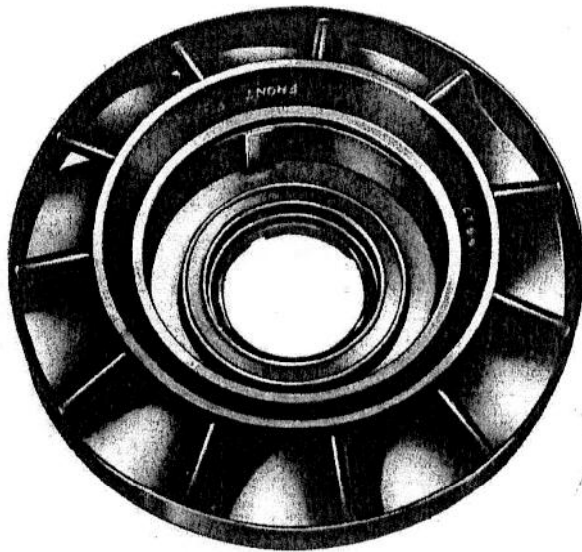

FIG. 8
3. (Fig. 8) Replace one thrust washer with the slotted side against the circlip.